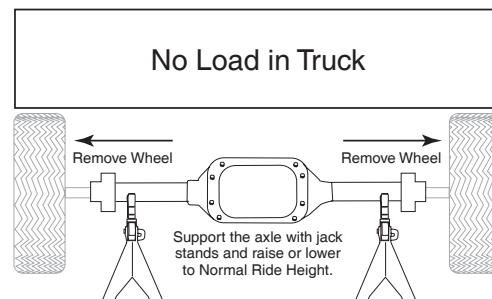

Figure 1
1. Elevate the rear of the vehicle and secure the frame with jack stands or a frame-contact hoist. Support the axle (Figure 1).